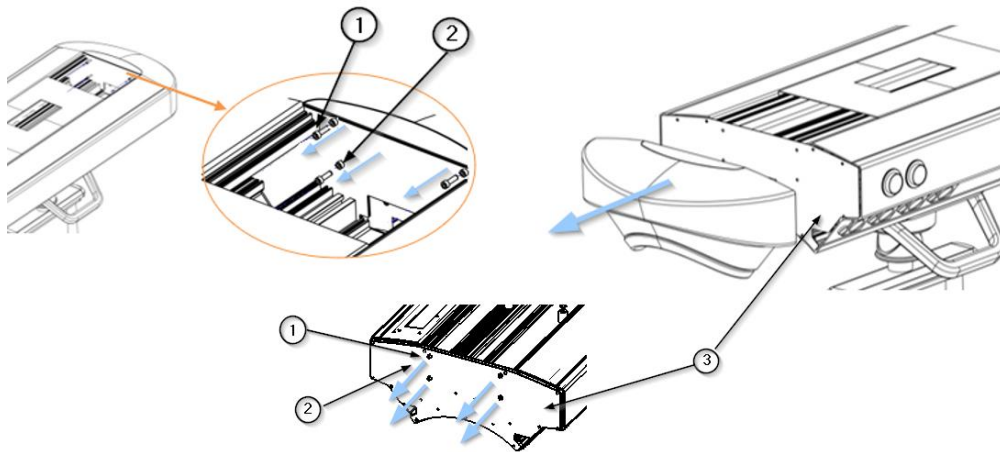

Fig. 9 Disassembly/assembly of end caps on ABITUS main body
- Using a hexagonal tool, remove the 4 M6 x 25 screws (1) and the 4 corresponding washers DIN 9021 (2) as shown in figure 9.
- The end cap bracket (3) is now visible. Remove it by removing the 4 M6 x 25 screws (1) and the 4 corresponding washers DIN 9021 (2) using the same tool as shown in figure 9.
- First attach the end bracket (3) and secure it with 4 M6 x 25 screws (1) and 4 corresponding washers DIN 9021 (2).
- Then place the end cap in position and secure it with 4 M6 x 25 screws (1) and 4 corresponding washers DIN 9021 (2).